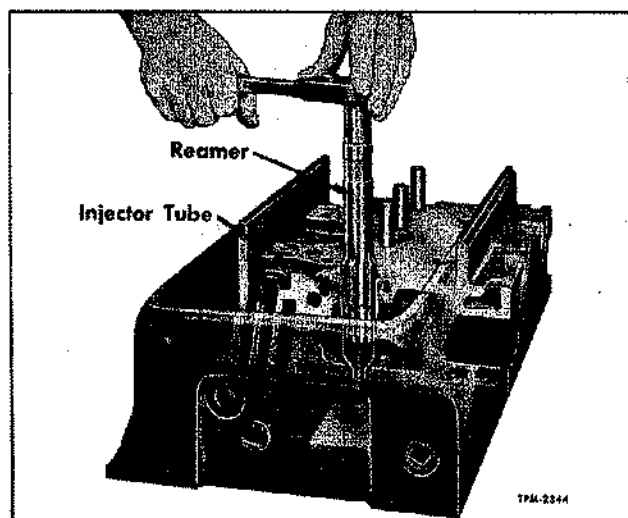

Figure 81—Reaming Injector Copper Tube in Cylinder Head for Injector Body Nut and Spray Tip
1. Apply a few drops of light cutting oil on reamer flutes, then position reamer in tube. Turn reamer clockwise at all times until shoulder of reamer contacts injector tube (fig. 81).